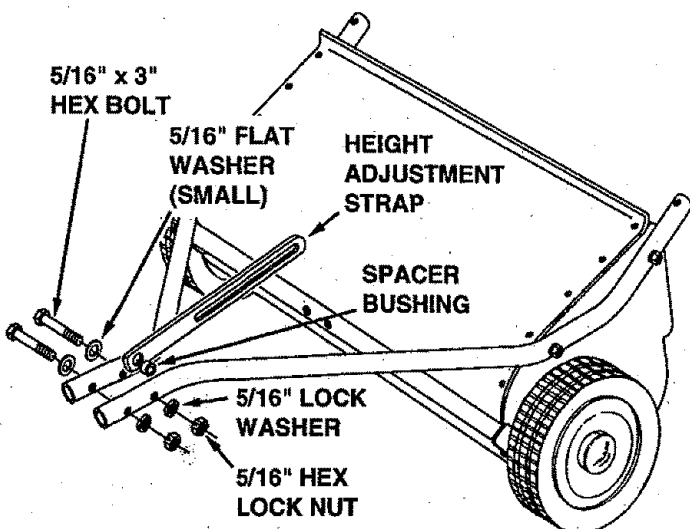

FIGURE 2
- Place the spacer bushing into the hole in the height adjustment strap. Place the strap with bushing between the hitch tubes, aligned with the rear hole. Fasten the hitch tubes together, with the strap and bushing between them, using two 5/16" x 3" hex bolts, 5/16" flat washers (smaller), 5/16" lock washers and 5/16" hex lock nuts. **Do not tighten yet.** See figure 2.